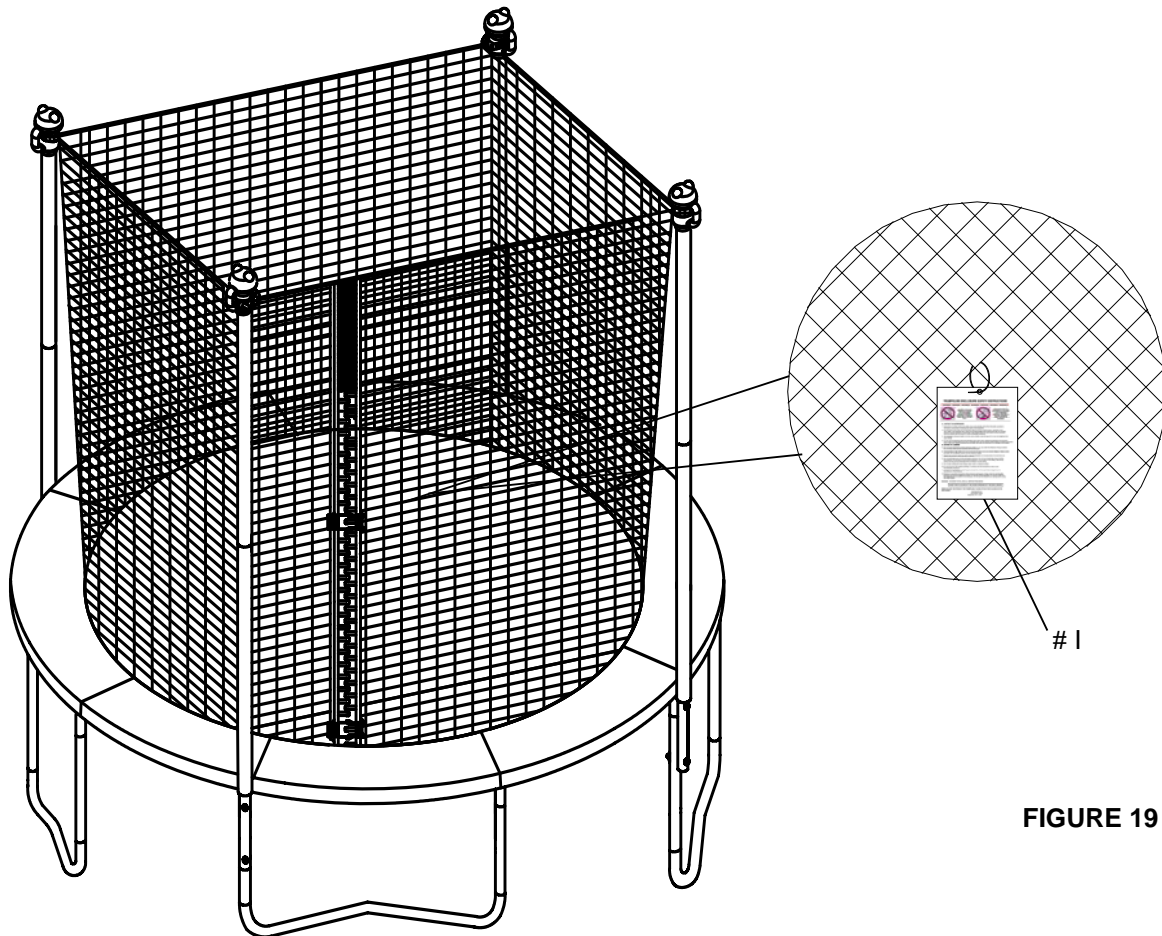

FIGURE 19
G. Now, use the included plastic tie, attach Safety Placard (# 1) to the netting near the door as shown in FIGURE 19.